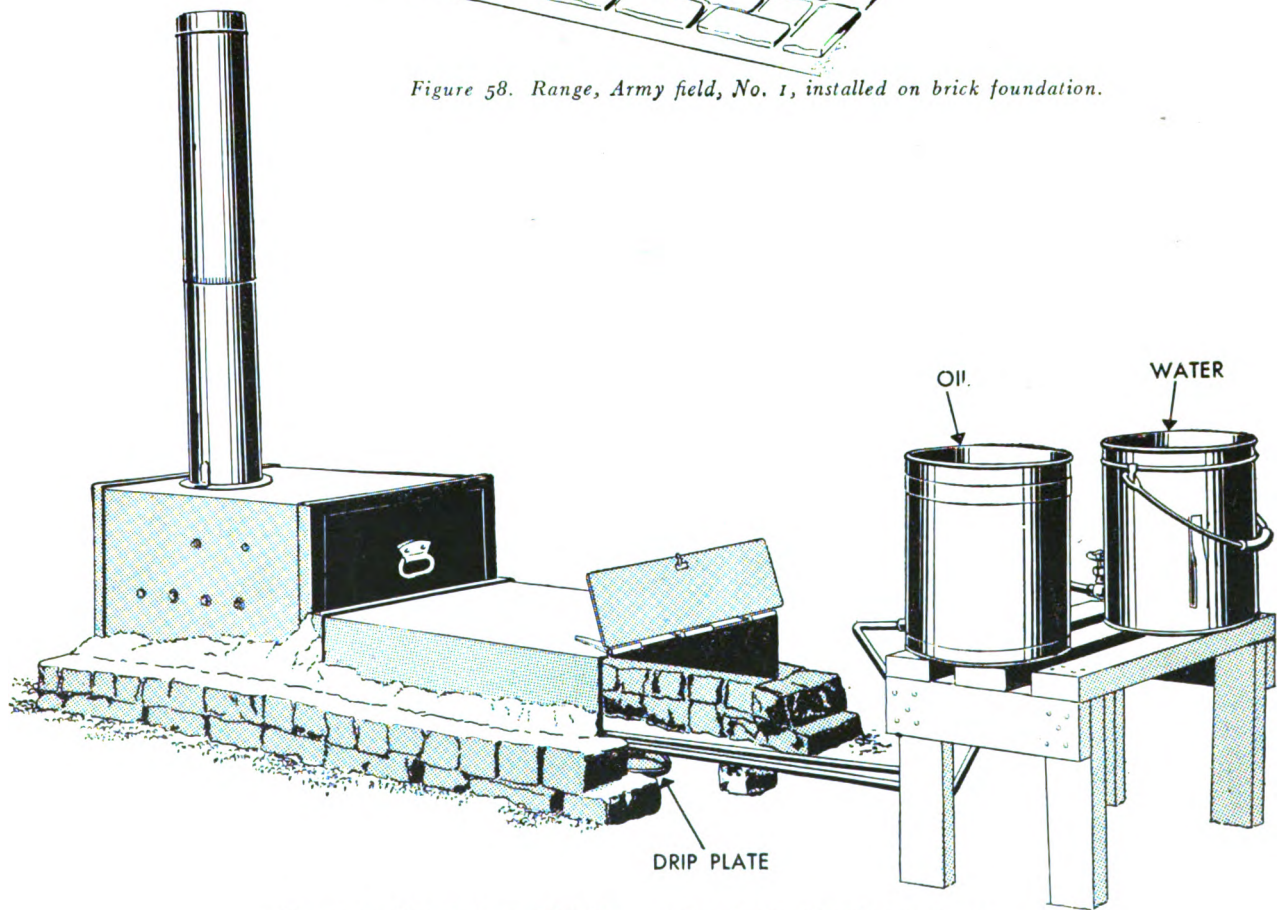

Figure 59. Range, Army field, No. 2 equipped with oil-and-water burner.
b. USING WOOD OR COAL. (1) Use short, dry wood for firing and keep the fire well toward the firing end (front end) of the boiling plate. Do not overload the range with wood, but keep an even-burning fire.
(2) Never use coal when wood is obtainable. Even when coal is used, add some wood if possible. Continued use of coal alone will soon burn the range out.
c. USING OIL-AND-WATER BURNER (DODSON BURNER. (See figs. 59 and 60). (1) In the event
that a supply of oil is available, an oil-and-water burner may be improvised. (See fig. 59.) Crank-case oil or other waste oil may be utilized.
(b) Attach a piece of tubing fitted with a valve to the lower part of each drum. Bend the tubes as illustrated in figure 59 and extend them under the range to the point at which you want the flame.